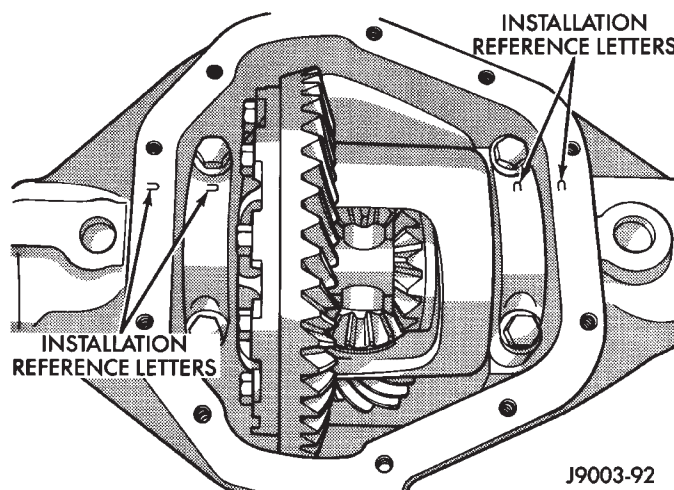
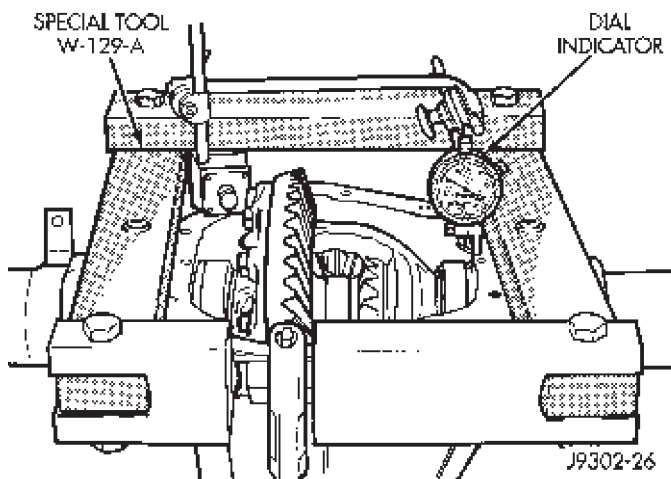
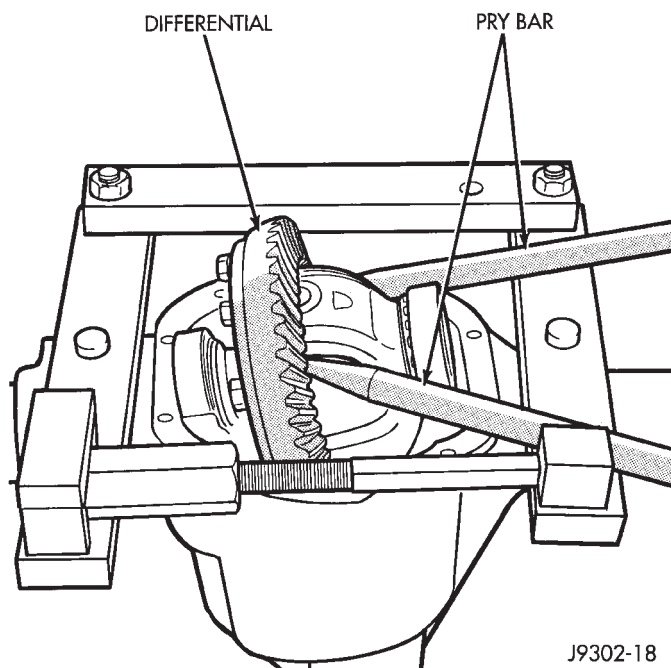

Fig. 24 Bearing Cap Identification
Fig. 25 Spread Differential Housing
Fig. 26 Differential Removal
(1) **Note the installation reference letters stamped on the bearing caps and housing machined sealing surface (Fig. 24).**
(2) Remove the differential bearing caps.
(3) Position Spreader W-129-A with the tool dowel pins seated in the locating holes (Fig. 25). Install the holddown clamps and tighten the tool turnbuckle finger-tight.
(4) Install a pilot stud at the left side of the differential housing. Attach Dial Indicator to housing pilot stud. Load the indicator plunger against the opposite side of the housing (Fig. 25) and zero the indicator.
(5) Separate the housing a maximum of 0.38 mm (0.015 in.). Measure the distance with the dial indicator (Fig. 25).
(6) Remove the dial indicator.
(7) Pry the differential case loose from the housing. To prevent damage, pivot on housing with the end of the pry bar against spreader (Fig. 26).
(8) Remove the case from housing. Mark or tag bearing cups indicating which side they were removed. Remove spreader from housing.